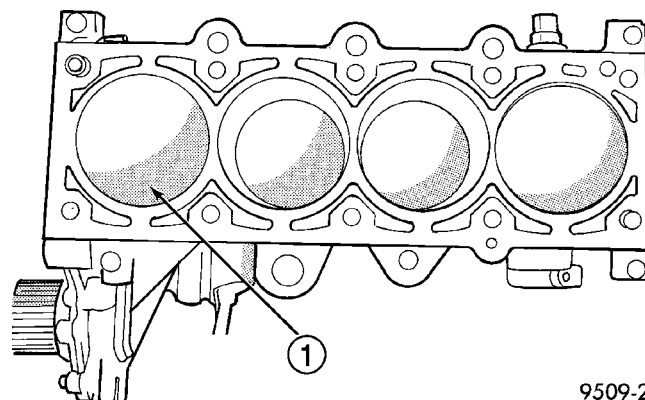

Fig. 74 Piston Markings
- (1) Remove the cylinder head (Refer to 9 - ENGINE/CYLINDER HEAD - REMOVAL).
- (2) Remove the oil pan (Refer to 9 - ENGINE/LUBRICATION/OIL PAN - REMOVAL).
- (3) Remove top ridge of cylinder bores with a reliable ridge reamer before removing pistons from cylinder block. **Be sure to keep tops of pistons covered during this operation.** Mark piston with matching cylinder number (Fig. 74).
- (5) Pistons will have a stamping in the approximate location shown in (Fig. 74). These stamps will
(5) The weight stamp designation L or H will be in the front half of the piston should face toward the front of the engine (Fig. 74).
(6) Rotate crankshaft so that the connecting rod journal is on the center of the cylinder bore. Lubricate connecting rod journal with clean engine oil.